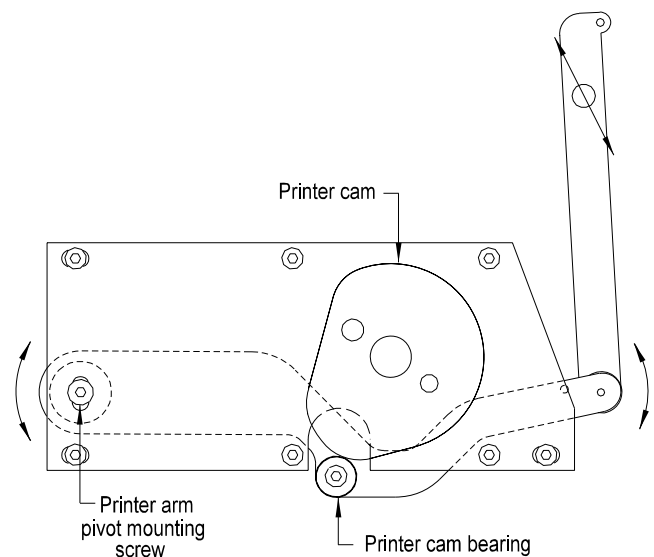

Figure 3.21
3. Identify the printer cam bearing (Figure 3.21) which is behind the closer cam. While looking below the closer cam manually press and release the print head. The cam bearing will move as the print head moves.
4. Jog the mechanism until the printer cam bearing (Figure 3.21) is contacting the highest point on the lobe of the printer cam. (See W. JOGGING THE CLOSER AND PRINTER MECHANISM below.)
8. Identify the screw (Figure 3.21 and item *12, Figure 5.5) on the motor mounting plate attaching the pivot to the motor plate. (The pivot will not be visible.) Loosen the screw. As the screw (and pivot) is moved up and down, the printhead will move in the opposite direction.